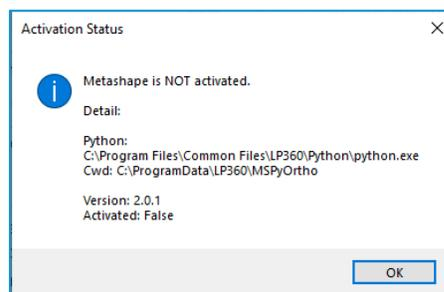

Figure 13 – Agisoft Ortho Mapping Activation Status - NOT Activated
6. You should see an Activation Status message (Figure 13) indicating, “Metashape is NOT Active”. Select OK.